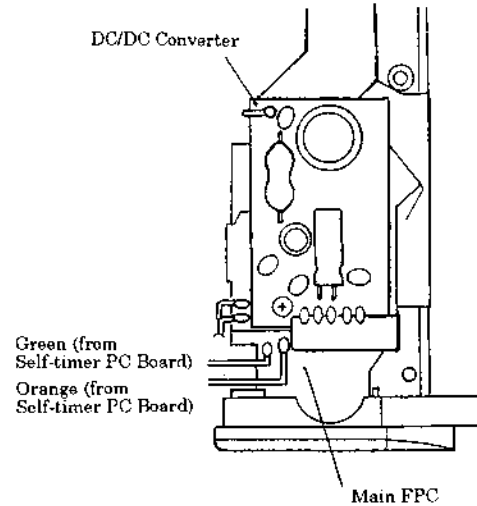

Fig.3
- The Front Plate Rubber (L) and Front Plate Rubber (R) are fixed to the Front Plates with double-stick tape.
- Once the Front Plate Rubber (R) and Front Plate Rubber (L) are peeled off, the adhesive strength of the double-stick tapes weakens or they may be torn. Be sure to replace the double-stick tapes with new ones.
- 3) Remove the Front Plate (L) Setscrews (61913526) \times 2, (61912026) \times 2 and take off the Front Plate (L) (1AF28400).
- (See Fig. 3)